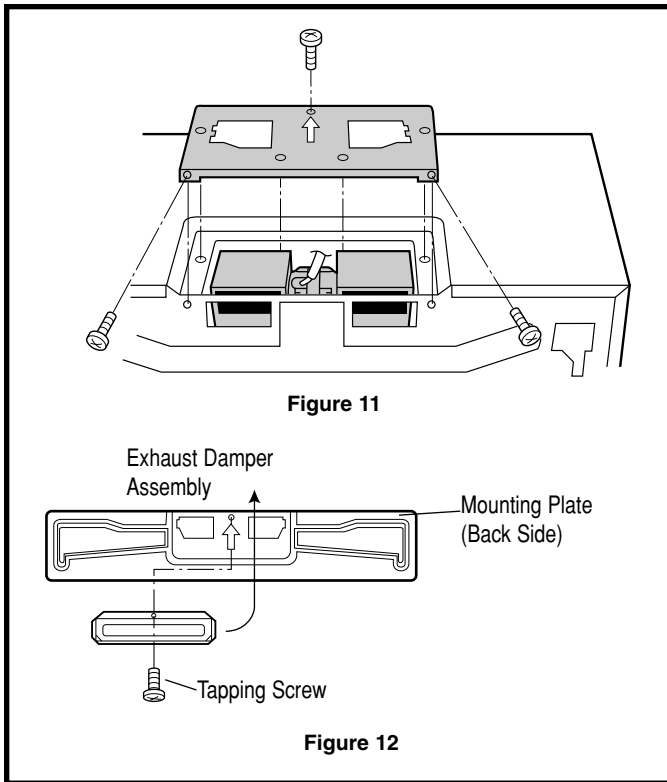

Figure 11
4. Put the lead wire into Wire Box. See Figure 11.
5. Replace the Fan Cover Bracket by sliding it into the slits in the same direction as the arrow on the Fan Cover Bracket. Make sure the fan blades are visible through the rear openings in the oven before proceeding. Attach Fan Cover Bracket to unit with 3 screws, which were removed in Step 1 above. See Figure 11. The Hood Fan Unit is now rotated for horizontal exhaust operation.
5. Replace the Fan Cover Bracket by sliding it into the slits in the same direction as the arrow on the Fan Cover Bracket. Make sure the fan blades are visible through the top openings in the oven before proceeding. Attach the Fan Cover Bracket to unit with 3 screws, which were removed in Step 1 above. See Figure 11. The Hood Fan Unit is now rotated for vertical exhaust operation.